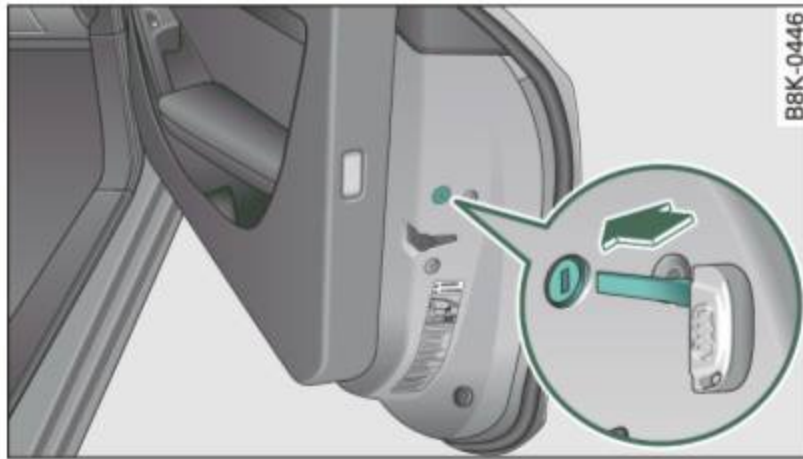

Fig. 45 Emergency locking of the passenger's door
- Pull the protective cover out of the hole ⇒ *fig. 45*.